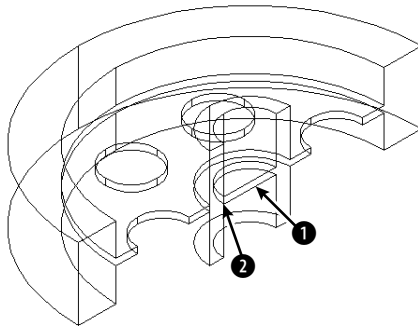

**Figure 24-30:** The solid after slicing and deleting one-half.
*Pick the model at ❹.*
4. As mentioned earlier, the slicing reveals an error—the disk cuts through the central tube, as shown in Figure 24-30. To fix the error, zoom in so that the model takes up the entire screen.
Specify center point of base or [3P/2P/Ttr/Elliptical]: *Pick the midpoint at ❶ in Figure 24-30.*